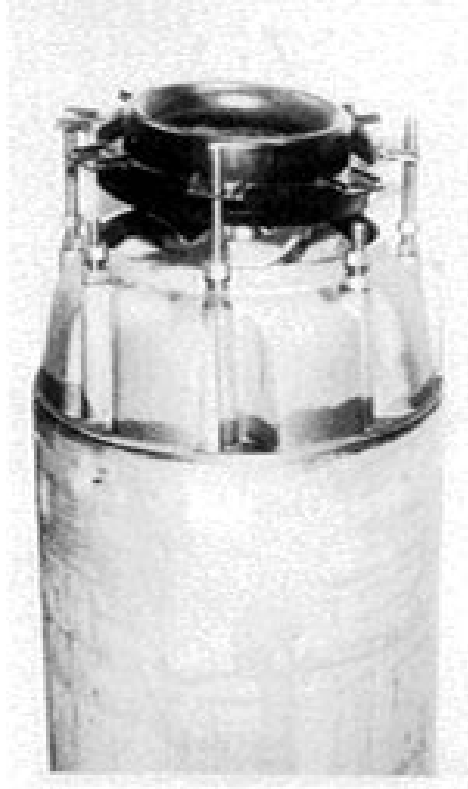

Fig 19
- Screw a new set of nuts P/N W84215 on the pump stud bolts . Then set in place the diffuser centre P/N W492019 **Fig 19** .